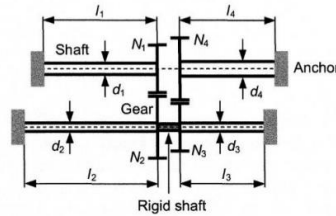

FIGURE 2.55
- 2.24** Determine the equivalent torsional stiffness transferred to the intermediate rigid shaft axis of the gear transmission sketched in Figure 2.55. All other shafts are flexible; they are constructed from the same material with $G = 90$ GPa N/m² and are defined by $d_1 = 0.005$ m, $l_1 = 0.15$ m, $d_2 = 0.004$ m, $l_2 = 0.2$ m, $d_3 = 0.0045$ m, $l_3 = 0.1$ m, $d_4 = 0.006$ m, and $l_4 = 0.12$ m. Known are also the number of teeth of the gears $N_1 = 36$, $N_2 = 44$, $N_3 = 32$, and $N_4 = 48$.